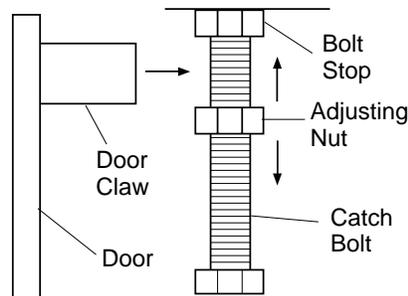

Figure 12 - Catch Bolt and Door Claw Orientation
10. Install door catch bolt (M8 x 1.25-55mm with two M8 hex nuts) into threaded hole on stove body (see Figure 9, page 5). Use an adjustable wrench or a 12mm socket. The catch bolt has two hex nuts attached to it (see Figure 12). The top nut is a bolt stop and the bottom nut is for door leveling adjustment.